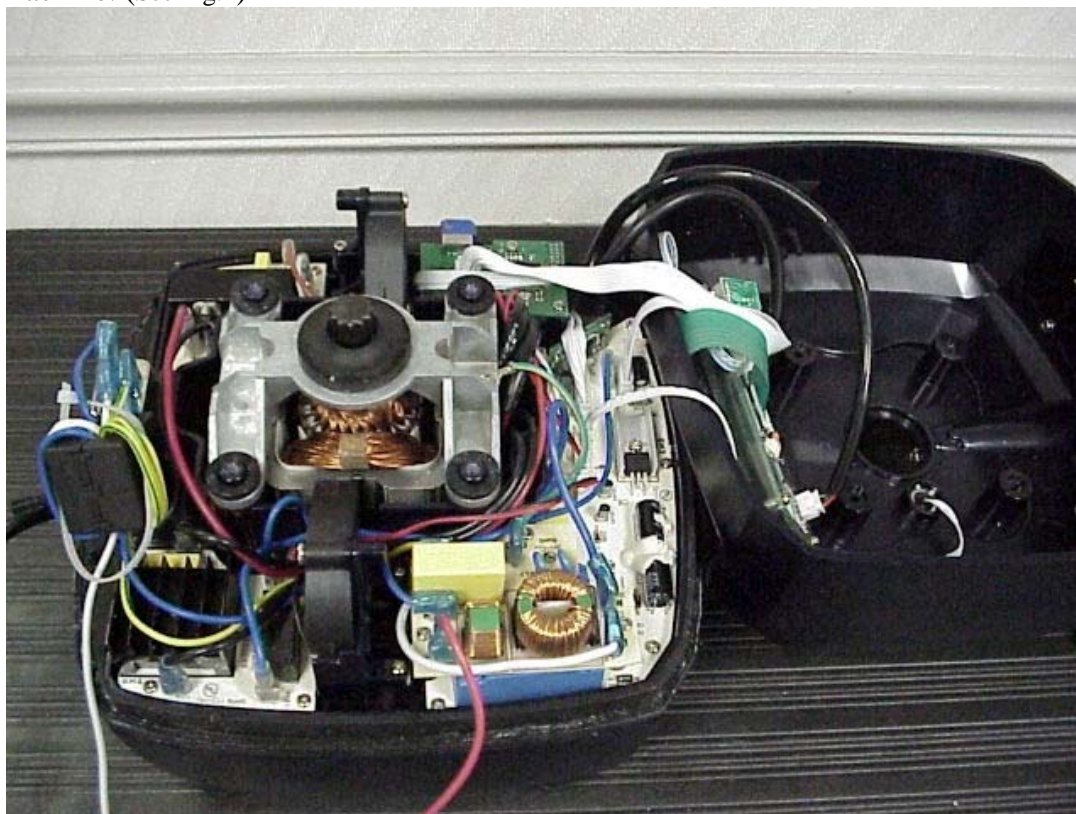

Figure 1. Unit with circuit breaker leads disconnected and upper housing positioned to the front of the machine.
- Disconnect the two leads to the circuit breaker. Position the upper housing to the front of the machine. (See Fig.1)